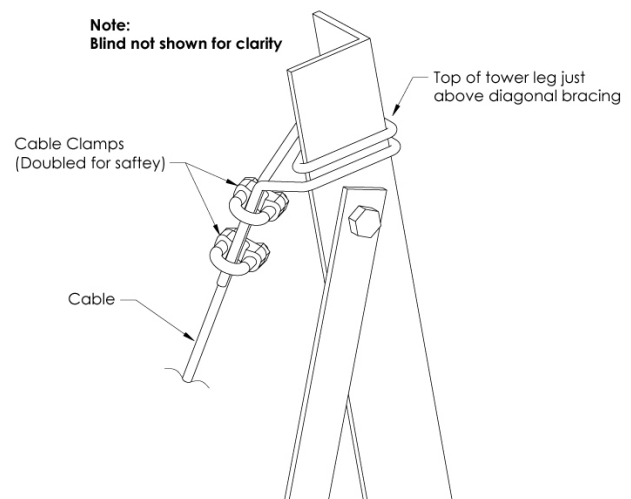

Figure 2
7. Attach the cables as shown, one from each O-ring to the opposite upper corner of the tower (Figure 2). The cables will cross over each other as they span from the tower to the anchors.